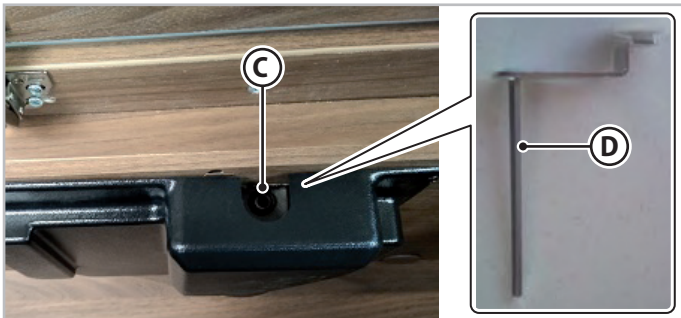

Fig.6.16 - Releasing a Type A electric bed
2. Insert the Allen wrench (**D** - Fig.6.16) into the screw (**C** - Fig.6.16) in order to manually move the bed; this is located on the front of the motor.